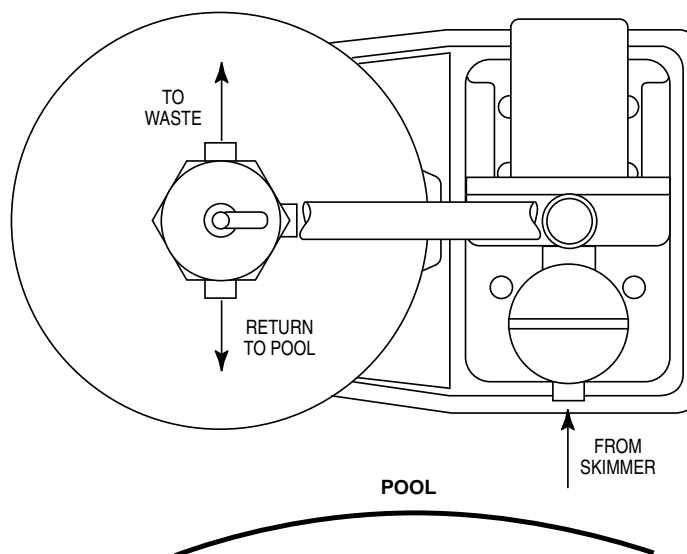

Figure 3.
2. Provide space and lighting for routine maintenance access. Locate the system close to the pool. See Figure 3 for typical system installation. Do not mount electrical controls over the filter. One needs to be able to stand clear of the filter when starting the pump. Systems that are unassembled should be assembled at this point. See special instructions below.
6. Be sure top of filter is free of any sand or debris and valve o-ring is in place on valve body. Install valve so that the port locations are in the desired final position. See Figure 3.